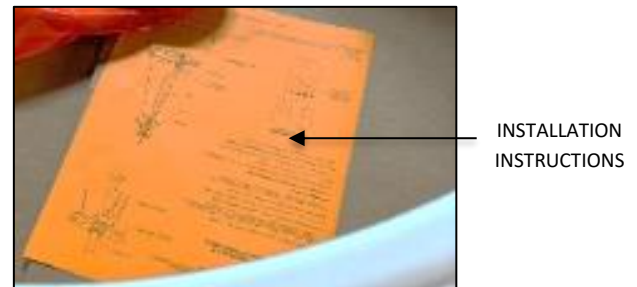

FIG. 3 - INSTALLATION INSTRUCTIONS
2. INSTALLATION INSTRUCTIONS (shown in FIG. 3) - Please completely read the install instructions before starting installation.